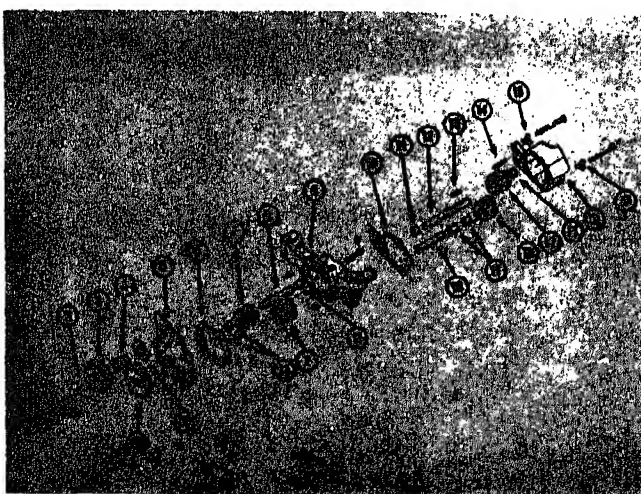

Fig. 7-6-3. Six-cylinder double lubricating oil pump — exploded view N20791
2. Remove capscrews and lockplates (15, Fig. 7-6-3) securing
3. Inspect scavenger-to-main pump housing dowels (16). If loose or damaged, remove.
4. Remove scavenger driven gear (18) and idler gear (19) from main housing. Inspect bushings (11). If worn or damaged, press out and discard.
5. Check scavenger housing bushing (11). If worn or damaged, remove from housing and discard.
6. Remove lockwires and capscrews securing idler gear retainer (1) to cover (5). Remove retainer.
7. Remove idler gear (3), thrust washer (20) and idler gear bushing (7) from cover.
8. If idler gear bushing (2) is worn or scored, press out and discard. See Table 7-6-2 for wear limits.
9. Remove lockwires, capscrews and lockplates securing cover (5, Fig. 7-6-3) to main pump housing (9). Inspect housing dowels. If worn or loose, pull and discard. Remove gasket (6).
10. Press drive shaft (8) from driven gear cover (5) that rides in main housing.
Position key on scavenger pump drive shaft (12, Fig. 7-6-3); align slot of scavenger pump drive gear with key and press gear (17) onto shaft.